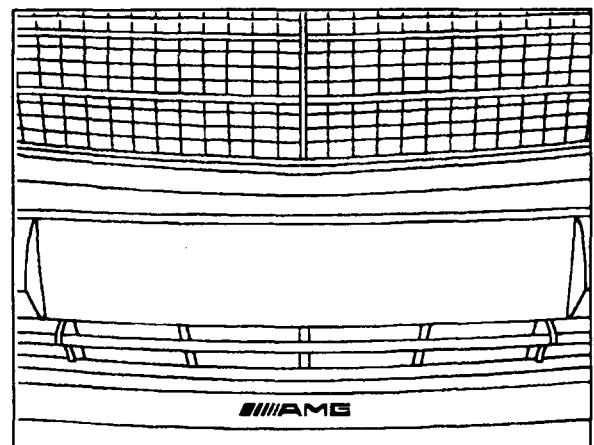

Figure 6
18. Warm AMG logo and mounting surface to 40 °C using heat gun. Position logo according to Figure 6.